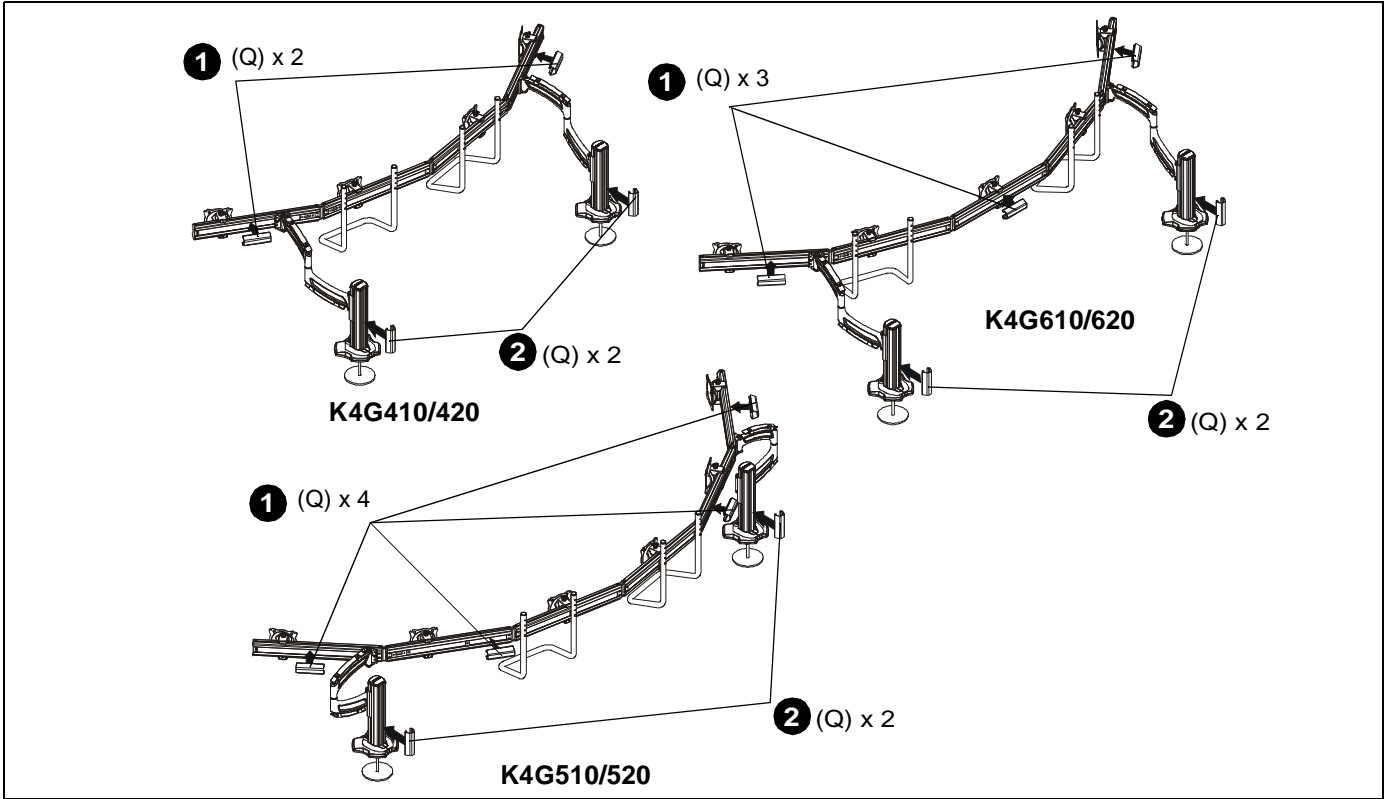
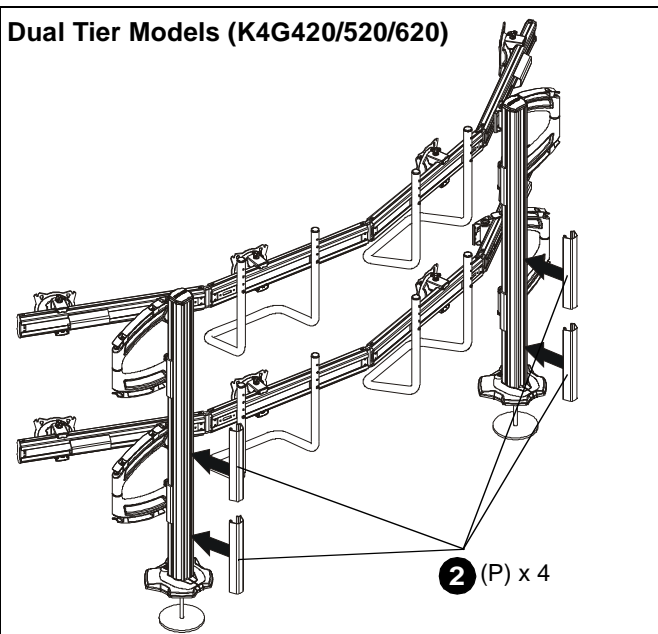

Figure 21
Figure 22
1. Install 4 1/2" cable covers (Q) to array arms. (See Figure 21)
2. Install two 4 1/2" cable covers (Q) to single tier column arms (F) or four 9 1/2" cable covers (P) to dual tier column arms (G). (See Figure 21) or (See Figure 22)